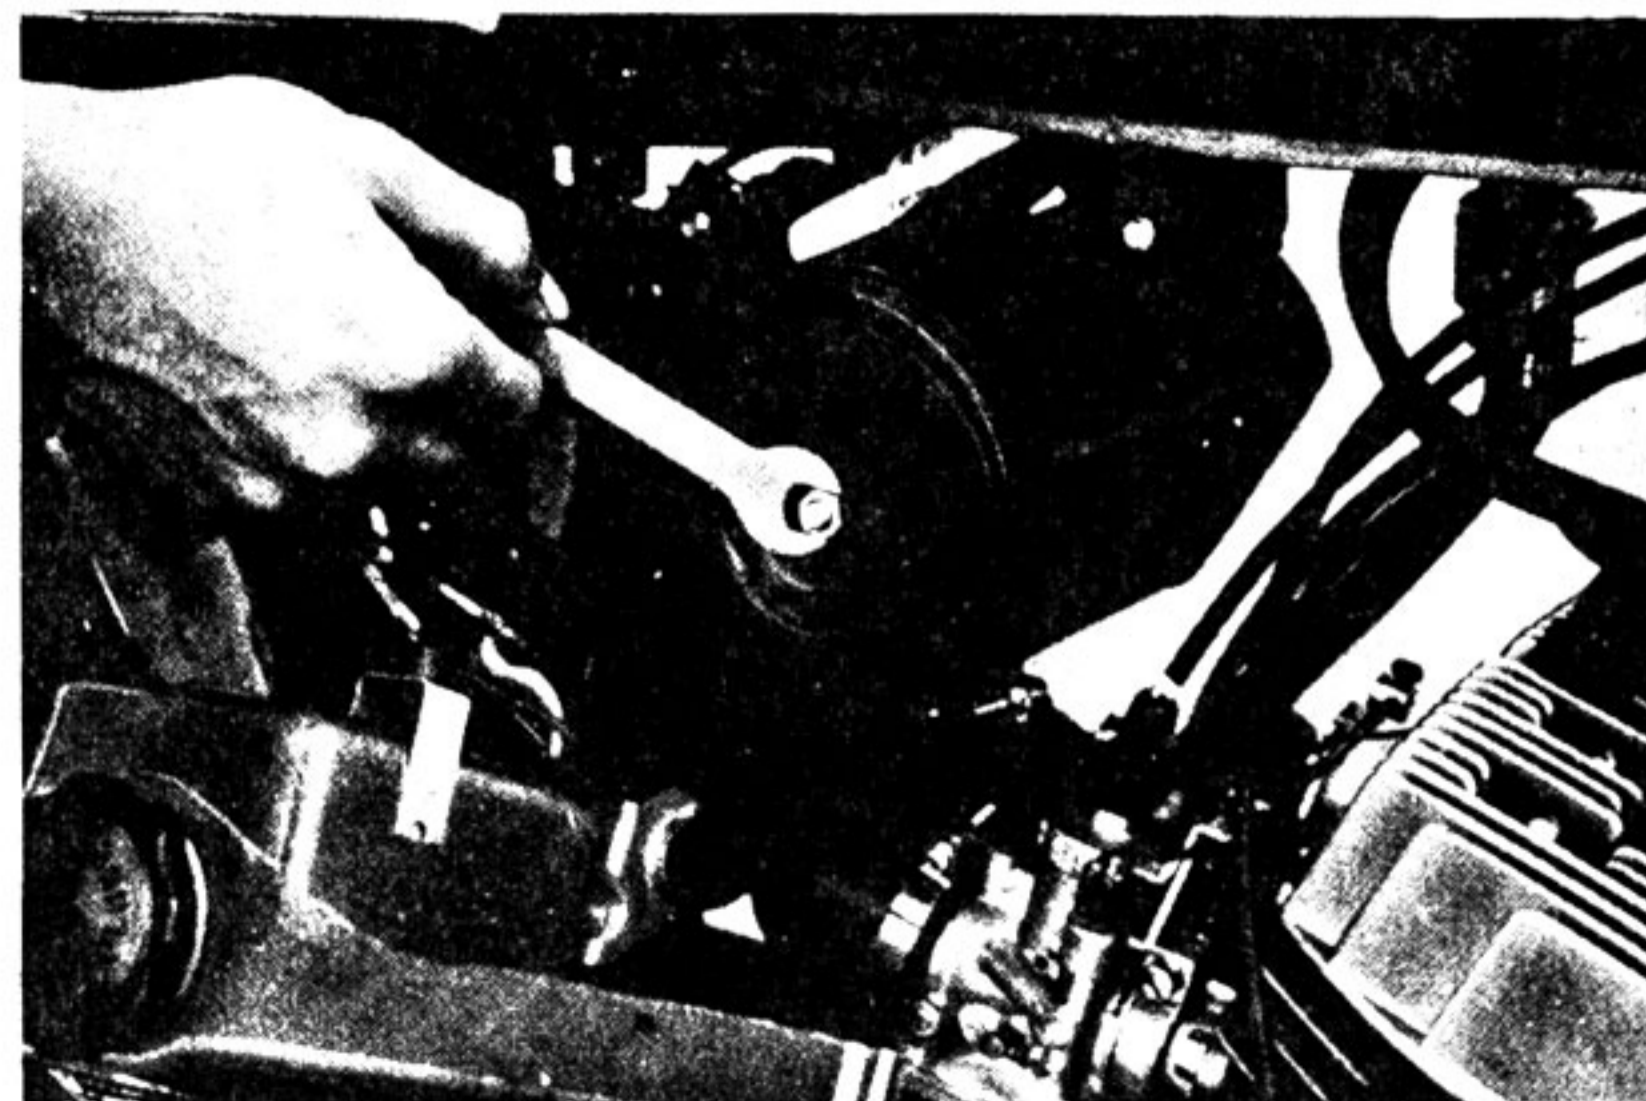

Fig. 4-20-1
- (1) Remove the side covers, both right and left.
- (2) Remove the air cleaner mounting bolt and take out the air cleaner case cap. (Fig. 4-20-1)